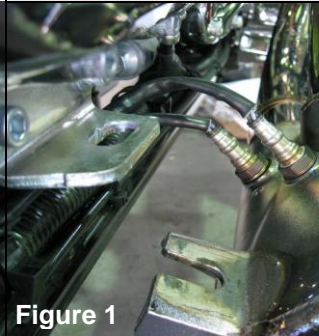

Figure 1
2. On the 2009 models carefully remove the 18 mm O2 sensors from the front and rear head pipes closest to the ports, using O2 sensor socket or a 7/8" wrench. On the 2010 and newer models remove the O2 sensors from the bottom location. (Figure 1)